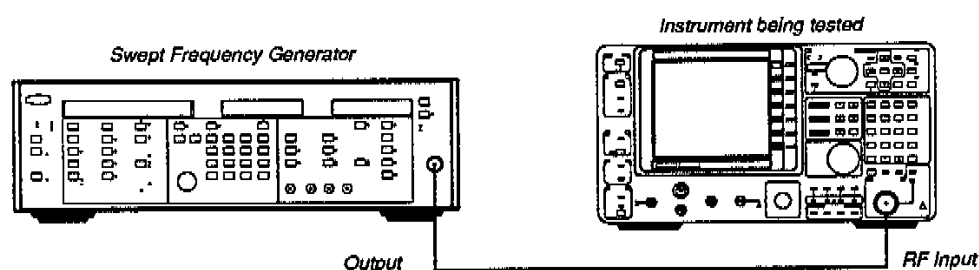

Figure 4-9. Test Equipment Setup for Out-of-Band Response and 1 dB Gain Compression Checks
2. Connect the swept frequency synthesizer through a 50 Ω cable to the instrument (as shown in Figure 4-9).
3. Set the synthesizer signal-output frequency for 1 GHz, and using a power meter, adjust the signal amplitude for -5 dBm. Connect the synthesizer to the instrument RF INPUT connector through a 50 Ω cable (as shown in Figure 4-9).